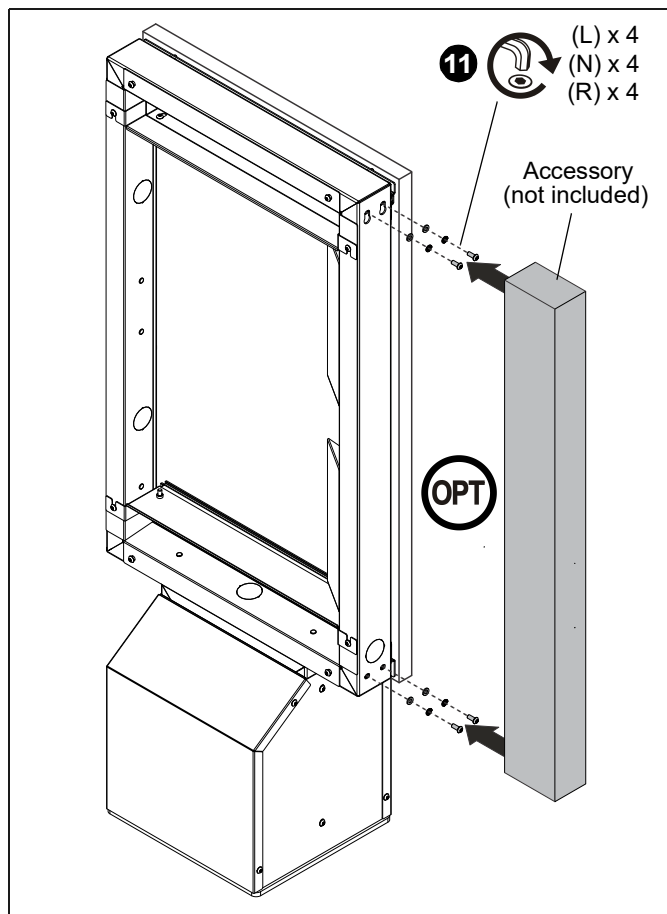

Figure 32
10. **OPTIONAL:** Install accessories to the side of the frame(s). Loosen the M8 x 20mm security screws (L), 8mm washers (R), and 8mm lock washers (N) installed in sides of frame(s) to hang components. Re-tighten hardware once accessories have been secured. (See Figure 32)